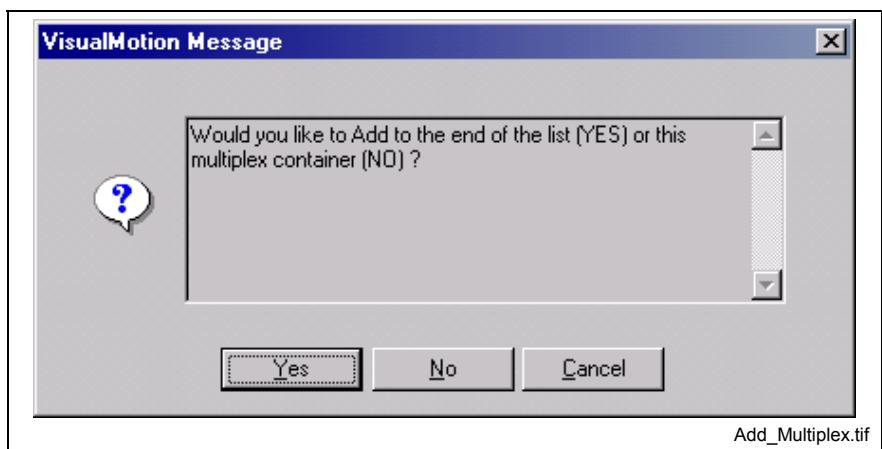

Fig. 7-168: Add Item or Multiplex Item
2. Click **Add**. The window in Fig. 7-168 below appears. Because it is unclear whether you would like to add to the list or to the multiplex container, the Fieldbus Mapper is requesting clarification.